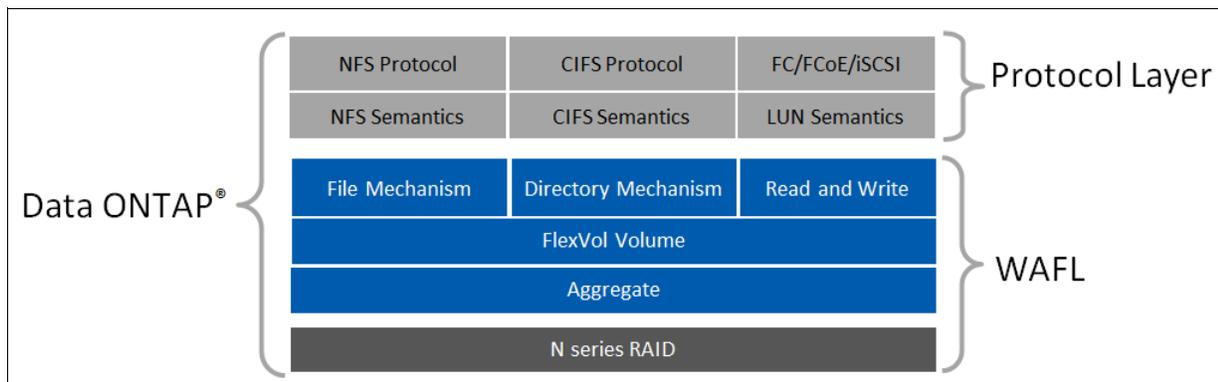

Figure 11-1 WAFL
- ▶ WAFL is highly data aware, and enables the storage system to determine the most efficient data placement on disk, as shown in Figure 11-1.
As shown in Figure 11-1, the protocol access layer is above the data placement layer of WAFL. This layer allows all of the data to be effectively managed on disk independently of how it is accessed by the host. This level of storage virtualization offers significant advantages over other architectures that have tight association between the network protocol and data.